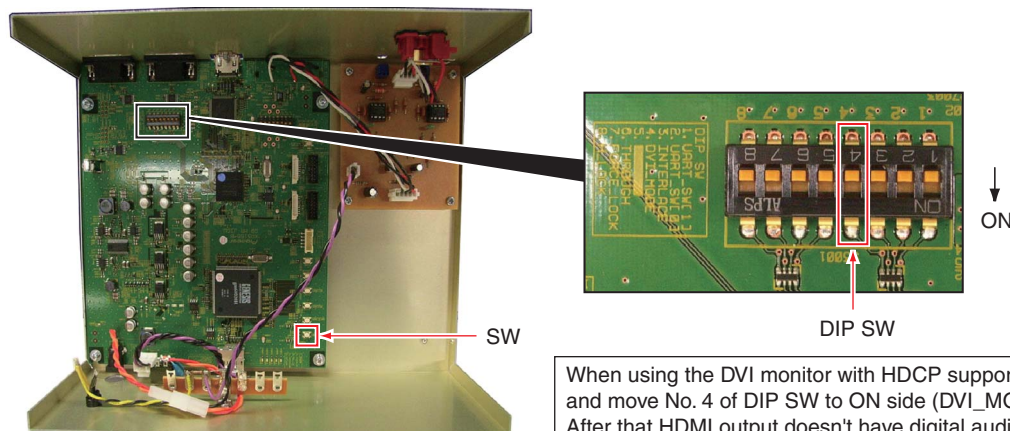

Fig.3 DP - HDMI Conversion tool
2. Refer to Fig. 3, move the DIP SW No. [4] to ON side.